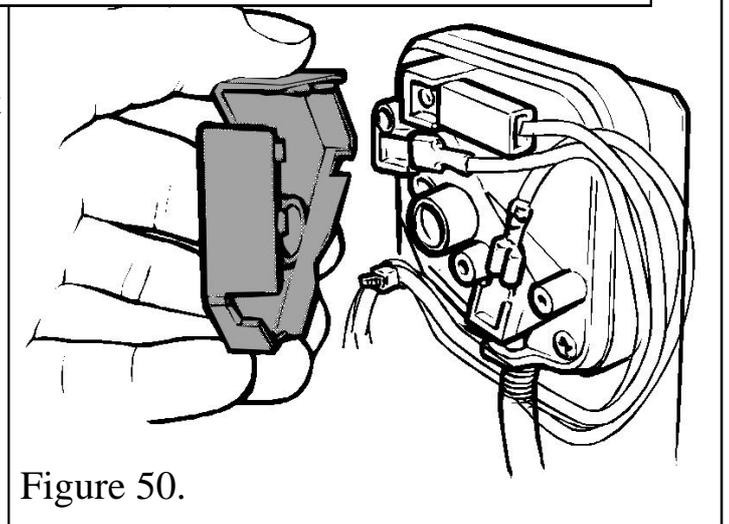

Figure 50.
- Remove the cover from the pressure switch to gain access (See figure 50).